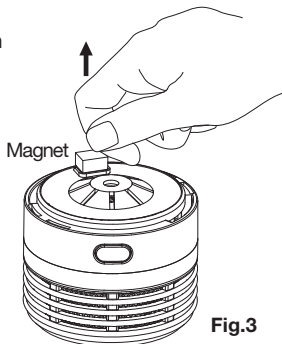

Fig.3
Unscrew the mounting plate, remove the small magnet, the power is automatically switched on (Fig.3). Note: Do not dispose of the small magnet - see page 8.
- Remove the small magnet from the designated position and reposition elsewhere within the cavity for later use (see Fig.3).